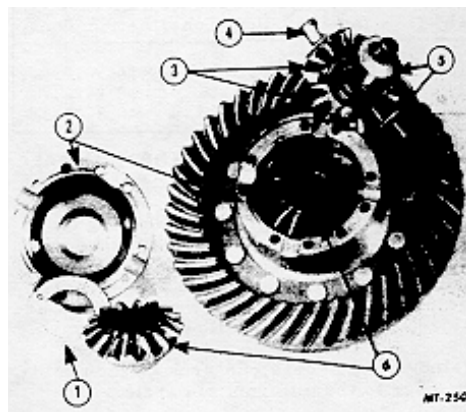

Fig. 14. Component Parts of Differential Case
3. Remove spider, pinions, side gears and thrust washers, Fig. 14.